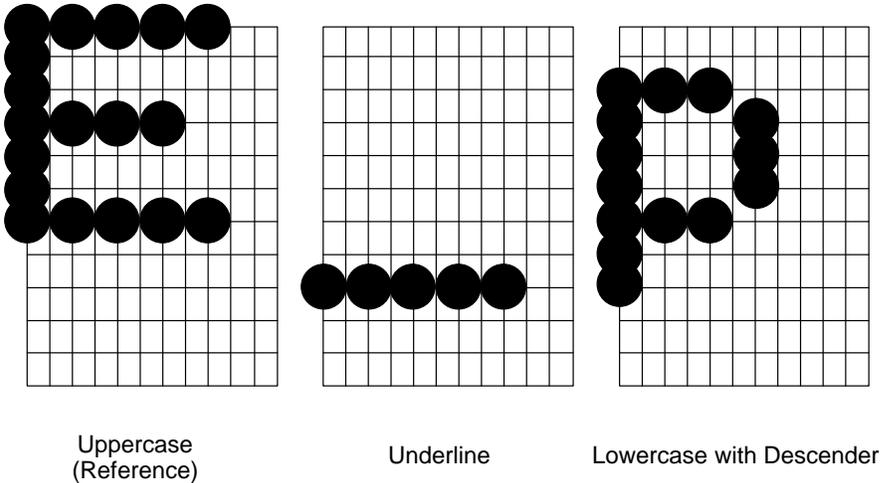

Figure 2-2. Typical Characters
The dot patterns of characters vary according to the font selected. For example, in the data processing (DP) font at a line spacing of six lines per inch (lpi), the dot matrix contains 12 dot rows from the top of one character line to the top of the next. (See Figure 2-1 and Figure 2-2.) At eight lpi there are nine dot rows per character line, at nine lpi eight dot rows per character line, and so on.